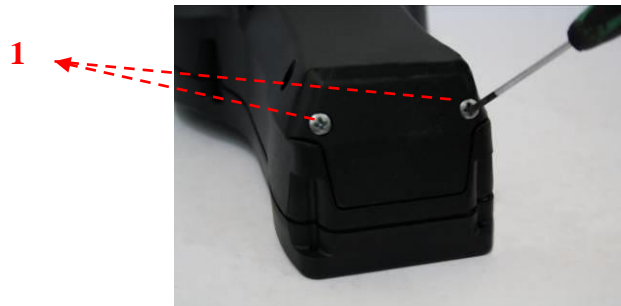

Figure 39
9.4.1 Unscrew two screws (item 1 Figure 39).